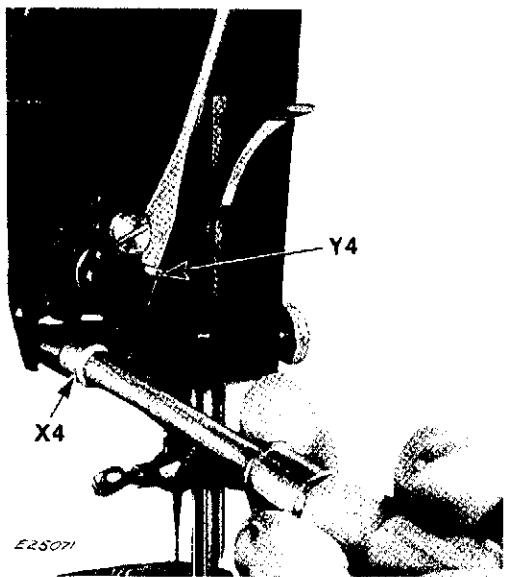

Fig. 67. Location of Clamp Screw and Nut
2. Using a 1/4 inch spin type box wrench, remove nut from eccentric stud at **X4**, Fig. 67.